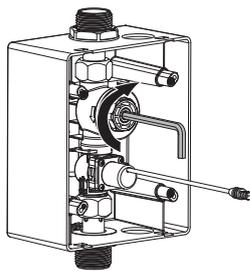

Figure 1
2. Turn off the water supply - insert allen key into isolating valve body and turn clockwise to close valve (Fig.1)